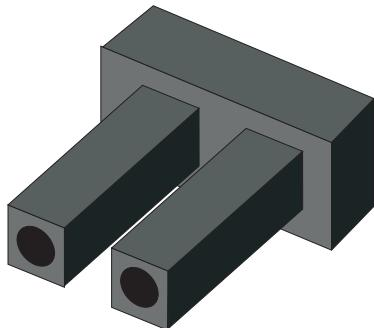

Figure 4 Fiber-Optic protective plug
- Fiber-optic protective plug—For safety and port transceiver protection, fiber-optic protective plugs as shown in Figure 4 on page 20 must be inserted in all switch ports without fiber-optic cables attached. The switch is shipped with protective plugs installed in all ports.